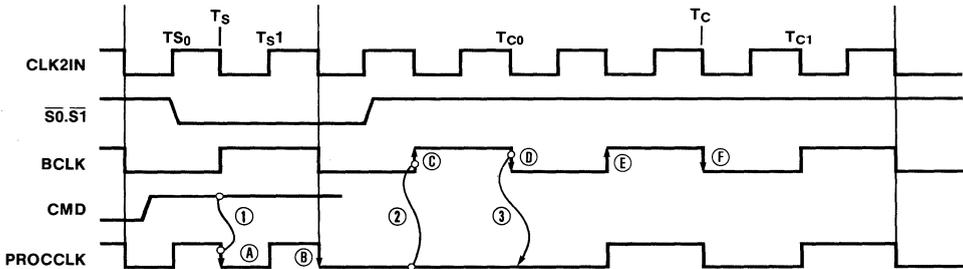

Figure 1.3 Sequence Diagram for High to Low Frequency Transition
Figures 1.3 and 1.4 illustrate the sequence of events that switch PROCCLK from high to low speed and from low to high speed, upon receiving a request from the configuration register. In Figure 1.3, the falling edge (A) of PROCCLK is used to latch the command inactive condition (1). On the falling edge (B), CLK2IN is disabled on the PROCCLK line. This ensures that clock switching will occur when PROCCLK is low. Once PROCCLK has been disabled, the first rising edge (C) of BCLK latches this condition as denoted by sequence (2). BCLK then enables itself on the PROCCLK line on the falling edge